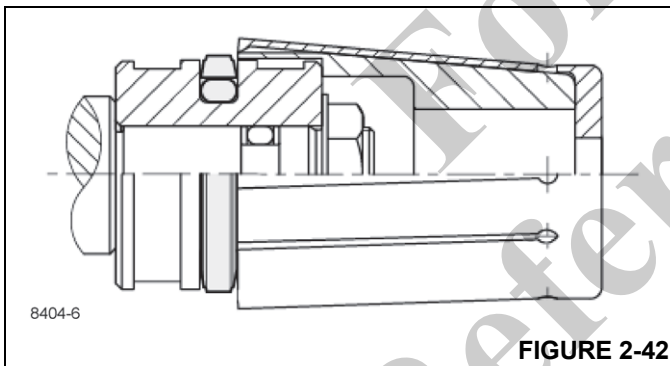

FIGURE 2-42
3. The turcon ring snaps into the groove still projecting a little (Figure 2-42).